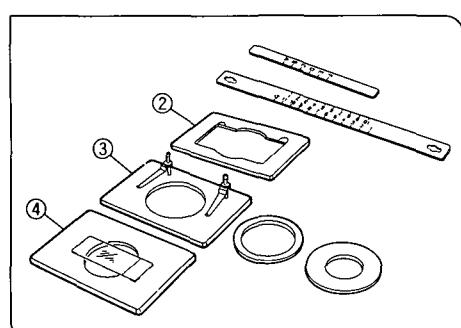

Fig. 60
- ◎ To secure other vessels than microtiter plates, various optional holders are available. A Terasaki plate holder ② is available for holding Terasaki plates (72-well, 60-well). When using this, it is necessary to replace the stage scales with those provided with the plate holder. Petri dish holder ③ is available for 35 mm, 54 mm, and 60 mm diameter Petri dishes, and a slide glass holder ④ is available for holding slide glass. (Fig. 60)